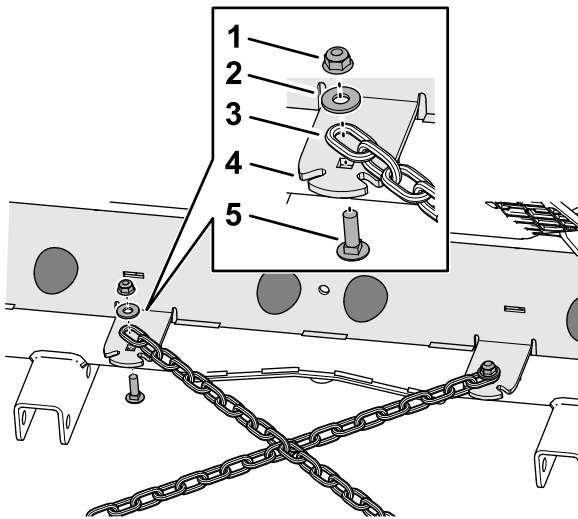

Figure 5
2. Align the link at the end of a short drawbar chain to the hole in the chain tab of the rear frame plate (Figure 5).
3. Assemble the chain to the chain tab with a carriage bolt (5/16 x 1 inch), washer (3/8 x 7/8 inch), and flange locknut (5/16 inch) as shown in Figure 5.